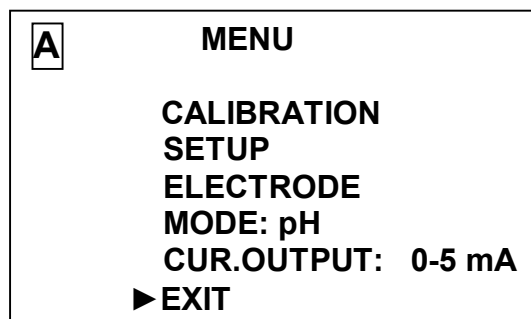

Figure 2.8
- 2 Press the “**menu**” button, the screen as shown in Fig.2.8 will appear.